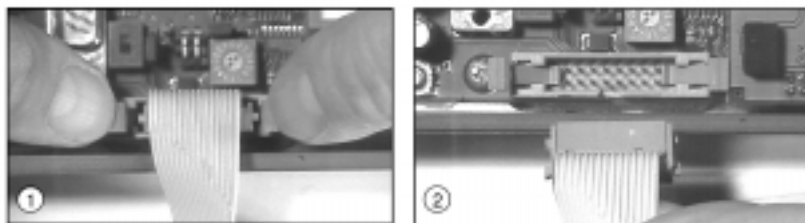

Figure 6.11: Disconnecting the ribbon cable inside the MA 10
The two halves of the housing are now connected to each other only by the ribbon cable. You can now disconnect the ribbon cable from the electronic circuit board for better access, as shown in Figure 6.11.
- To disconnect the ribbon cable, carefully press down the two latches of the ribbon cable plug at the same time, as shown in ① of Figure 6.11.
The cable is now free (② in Figure 6.11) and the half with the electronics and the connection terminal can be removed for unhindered connection.